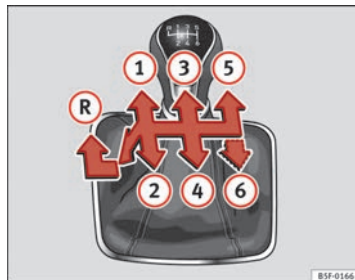

Fig. 89 Gear shift pattern of a 5 or 6-speed manual gearbox
The position of each of the gears is shown on the gear stick → Fig. 89. ►
- Move the gearbox lever completely to the left and then forwards to position it in reverse gear ⇒ Fig. 89 (R).